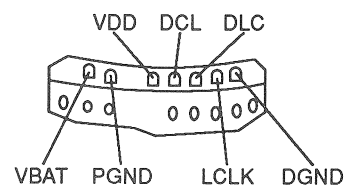

Fig. 3-35 MIF Contact Wiring
- The lead wiring is shown in figure 3-35.